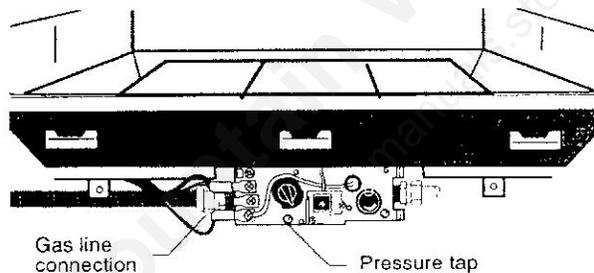

Figure 3-31. Connect the gas line to the left side of the valve.
1. Connect the main gas supply to the control valve inlet using a 3/8" NPT male fitting. Figure 3-31.
2. Pressure test the system using the tap accessible on the front of the control valve. Figure 3-31.